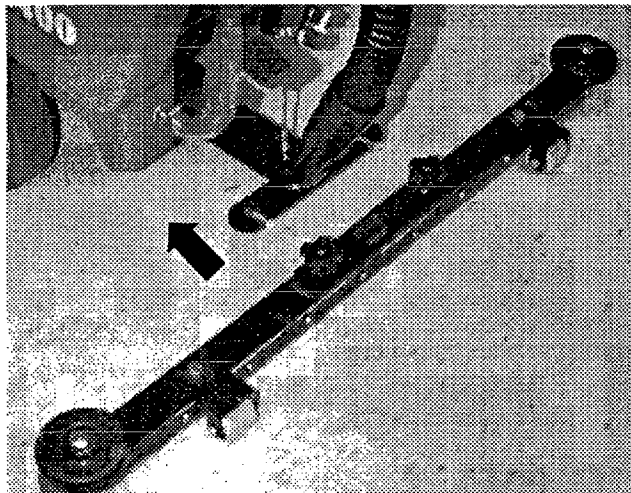

FIG. 1
2. Loosen two thumb knobs on squeegee and slide squeegee into slots at rear of squeegee mount bracket. Be certain that squeegee roller wheels are toward the rear. (Figure 1)